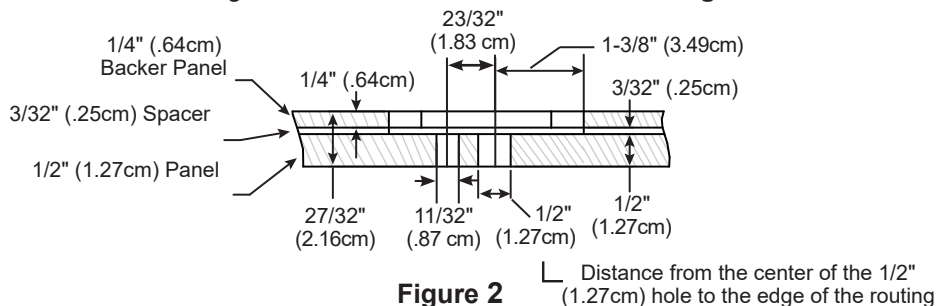

Figure 2
8. Using a router, straight line guide, and a 1" (2.54 cm) router bit, route on 1/4" (.64cm) backer panel and 3/32" (.25cm) spacer to create two clearance holes for handle mounting holes defined in steps 1-7.6. See **Figure 2** and **Figure 3**.
9. Using wood glue, adhere the 1/4" (.64cm) backer panel and 3/32" (.25cm) spacer to the back of the outer custom panel. Holes should clear the handle mounting holes. Cross section should look like **Figure 2**.